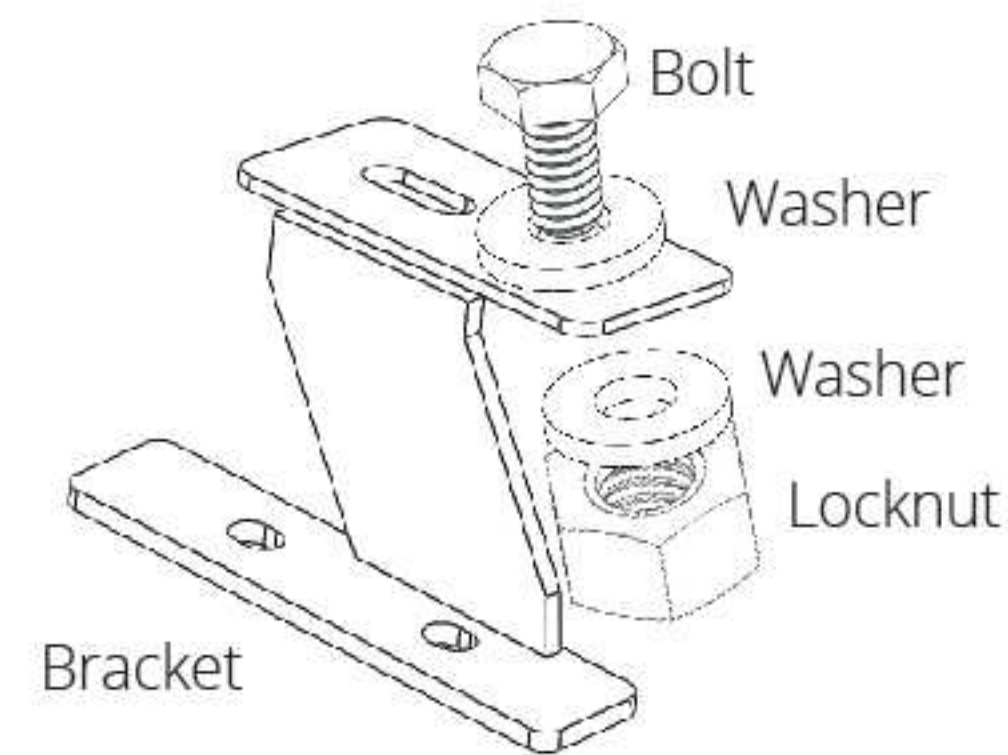

Figure 4
- 6** Remove the plastic on the bottom of the adjustable brackets and place on the plastic roof channel trim. Slide the bolt (J) and washer (L) (See figure 4) through the rack slotted plates and insert washer (L) and nylon lock nut (K).